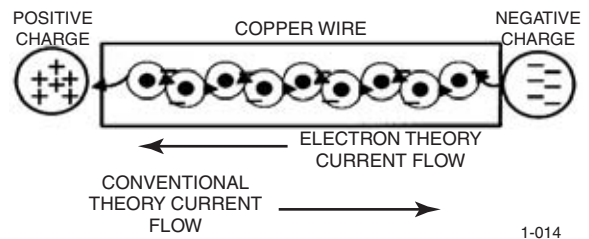

Figure 3-5. Current flow.
The movement of electrons in a circuit is the flow of electricity, or current flow (Figure 3-5), which is measured in **amperes** (A). This unit expresses how many electrons move through a circuit in one second. A current flow of 6.25×10^{18} electrons per second is equal to one ampere. A coulomb is 6.281×10^{18} electrons per second. $1 \text{ coulomb/sec} = 1 \text{ ampere}$.